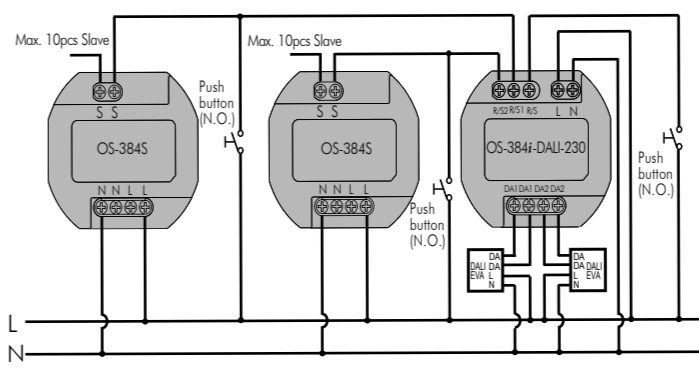
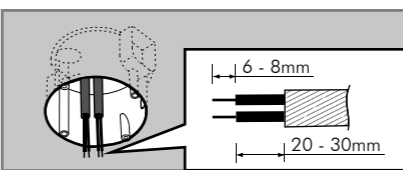
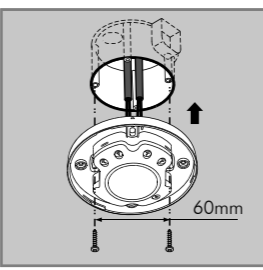
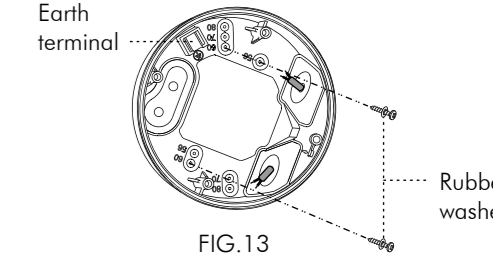

FIG.5
FIG.7
FIG.8
FIG.13
- 3.3.1 Normal operation: Max. 10pcs slave detectors can be connected to R/S, R/S1, R/S2 terminal of the master detector respectively (See FIG.5). The Maximum cable length between the first detector and the last detector must not exceed 100m, and each two detectors should be at least 1m.
- 3.4.1.2 Pull out AC power cables from European standard junction box (See FIG.7), then strip off 6 - 8mm of cable sheathing for wiring (See FIG.5).
- 3.4.1.3 Please refer to illustration of FIG.8 for correct wiring and fix the power box into European standard junction box with 2pcs screws (See FIG.8).
- 3.4.2.3 Please refer to illustration of FIG.5 for correct wiring and then screw the SP-93 tightly.
- 3.4.3.3 Choose proper knockouts to fix the junction box JB-42 on the surface of ceiling board with 2pcs wood screws attached with rubber washers (See FIG.13).
- 3.4.3.4 Refer to wiring diagrams for correct wiring connection (See FIG.5). There is a square hole in the fixing plate, when you put the fixing plate into the junction box, please fit the filler to the junction box's protrusion (See FIG.8), then fix the detector head on the power box following FIG.13 and assemble them with the attached 4pcs non-dropping screws.